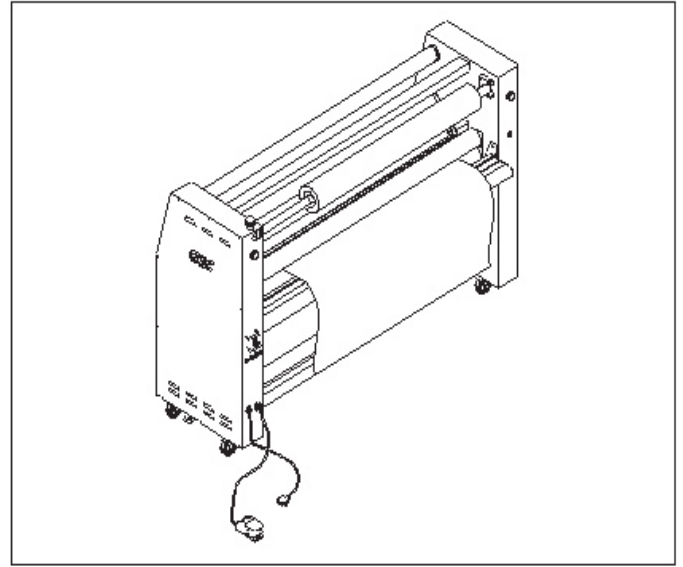

Fig 3
3. The laminator should be positioned to allow exiting film to flow freely to the floor (Figure 3) or a work table. Accumulation of laminate immediately behind the laminator as it exits the equipment may cause the film to wrap around the pull rollers, resulting in a “jammed” condition.